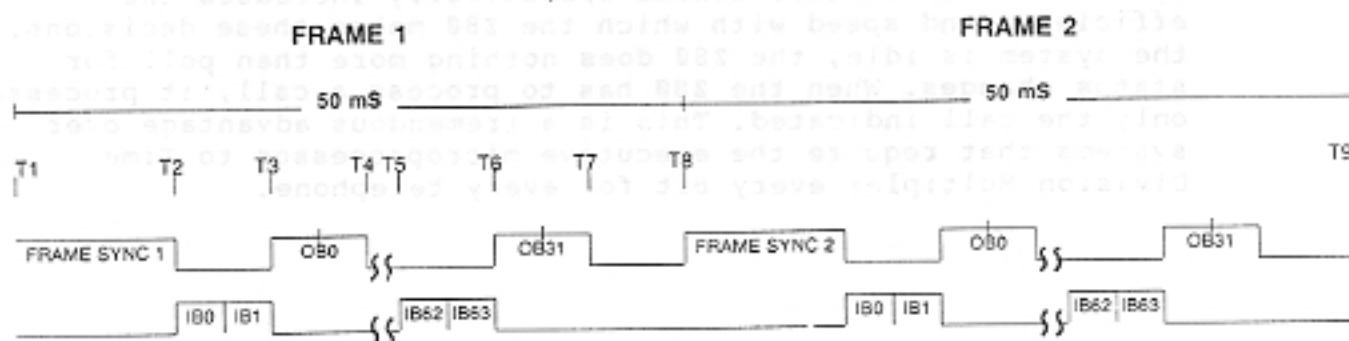

Figure 8-5 DATA FORMAT, TCX-128
2.35 The 6504 station processor is the first tier in the hierarchy. Each B-8SCU-C PCB has a 6504 station processor that uses eight serial output ports to communicate with eight key telephones simultaneously. A complete update of telephone status requires two data frames (Figure 8-5). Each frame consumes approximately 50ms, allowing a complete update of telephone status every 100ms.